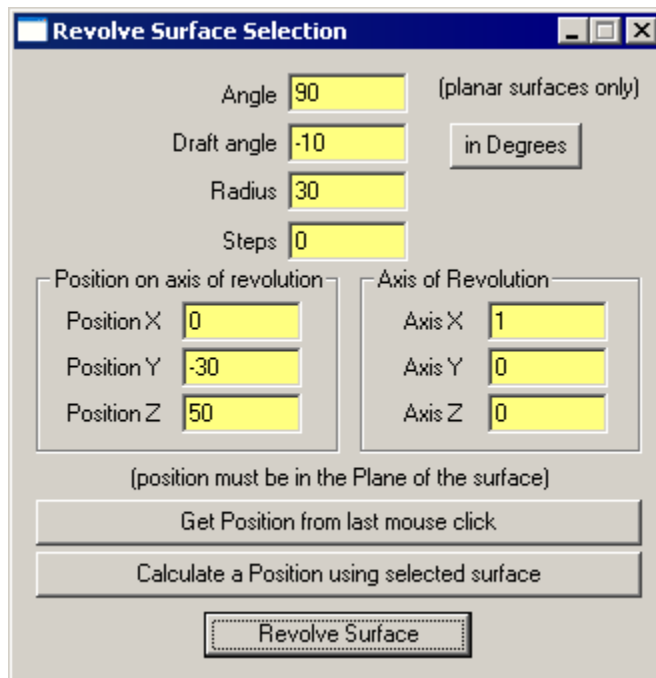

FIGURE 9.36 - The Revolve Surface Selection Dialog Box
8. Then select **Edit|Surface|Revolve** to open the Revolve Surface Selection dialog box and enter the values as shown in Figure 9.36.